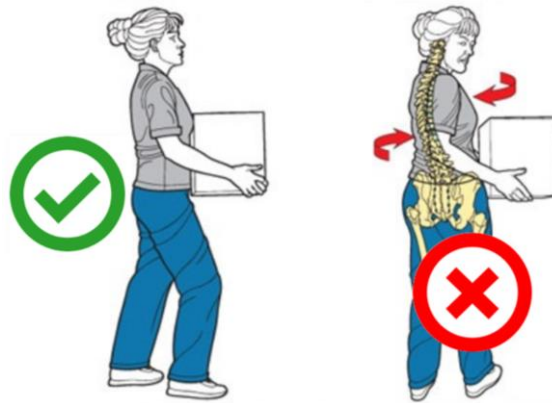

Fig. 6-3 – Handling technique
- Avoid torsions of the bust (Fig. 6-3);